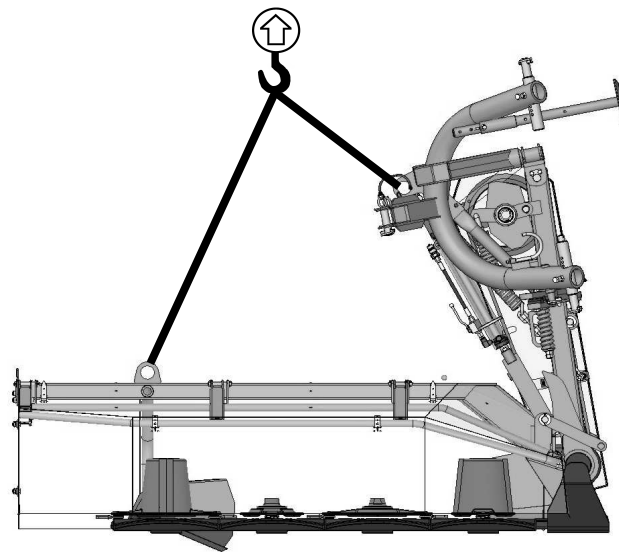

Fig. 4. Mower's catching points
- ❑ seize the mower by any lifting device only in places indicated on the machine with the hook sign (Fig. 4),